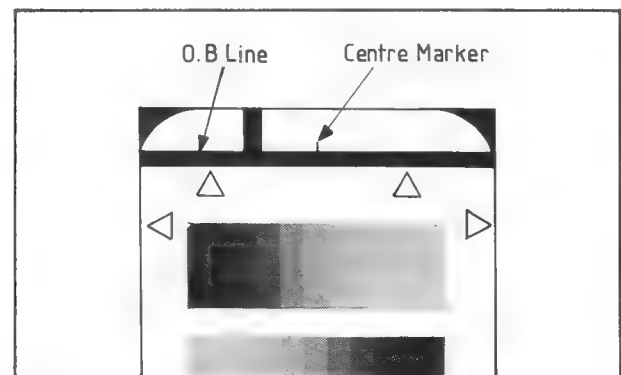

Fig 7.22
- (1) Connect the 33K $\Omega$  R jumper across resistor R33 on the Def and Power PCB (CA 4501A) in order to lower the vertical centre of the vidicon raster
- (2) Use the zoom lens to take a close-up shot of the grey-scale pattern (with frame marks)
- (3) Adjust R05 **H CENT** on the Def and Power PCB (CA 4501A) until the centre marker is positioned at the centre of the TV monitor as shown in Figure 7.22